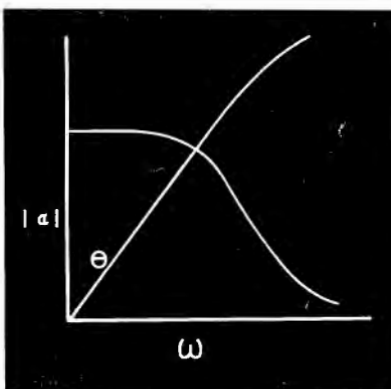

Figure 4
The first form is in complex notation, Eq. (5), and the second in the equivalent trigonometric notation, namely, an amplitude at an angle (given by its arctangent), while the third form expresses more generally the fact that the gain may be represented by a magnitude which is a function of the angular frequency ω , at an angle which is also a function of ω . The two components of the gain are plotted independently in Figure 4. It is evident that the amplitude of the gain drops off with increase in ω and approaches zero asymptotically while the phase shift is not linear with frequency except approximately for a short distance from zero frequency. Reference to Eq. (5) indicates that if we wish this amplifier to be approximately flat to a high value of ω it is necessary that $C_i R$ be correspondingly small in order that the product $\omega^2 C_i^2 R^2$ be small compared to unity. For a given value of C_i determined by the shape of tube and circuit layout, such flatness of gain and also linearity of phase shift can be achieved only by the use of a small load resistance R_L , which in turn means that the magnitude of the gain will be small. Thus, so-called video amplifiers that are to be flat to 100,000 cycles or more, often